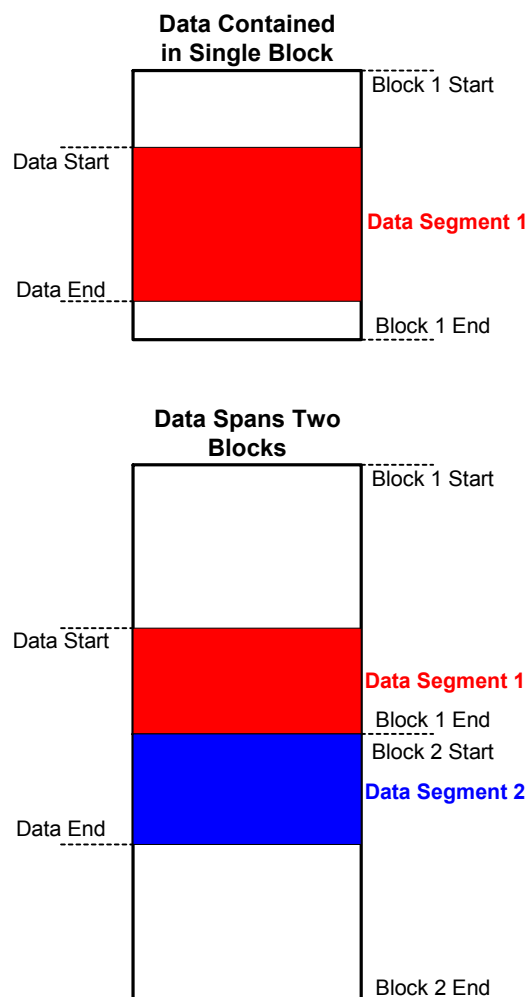

Figure 4. Data Alignment
The high level of the MMC interface provides the user with simple memory functions to access the MMC. These functions take the user's memory request and break it into a series of MMC commands. These commands are then executed through the low level command execution function. Following is a list of memory operations along with a description of their implementation in this system. Note that read and write data lengths are limited to a 512 byte maximum in this implementation. Also note that operations on data spanning more than one data block require additional overhead. Specifically, data blocks must be operated on one at a time, so operations that span two blocks of data must be broken into two separate, sequential operations. Figure 4 shows desired data contained in one block vs. data that spans two blocks; this figure supplements the text and flow charts that describe the high level Flash routines that follow.
2. If data is contained within one MMC block, issue a set block length command followed by a read block command. If data spans two blocks, set the block length to the length of data segment 1 (see Figure 4), and then issue a read. Next, set the block length to the length of data segment 2, and then issue a second read.